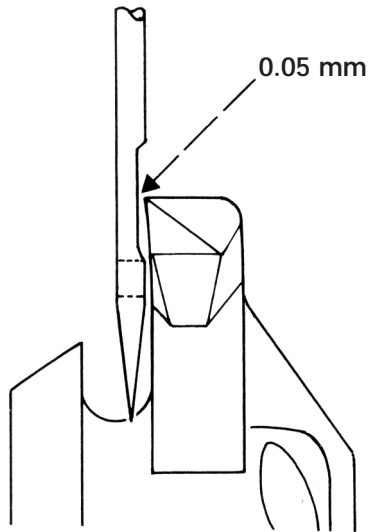

Fig. 6
At the settings for straight stitch and "middle" needle position, the distance of the sewing hook point from the bottom of the scarf in the needle (130/705 H system) must be 0.05 mm to 0.1 mm (fig. 6). With the right needle swing of the widest zigzag stitch, the sewing hook point must almost touch the needle.
- Move the hook race 21 so that the clearance is equal to 0.05 - 0.1 mm (fig. 6).